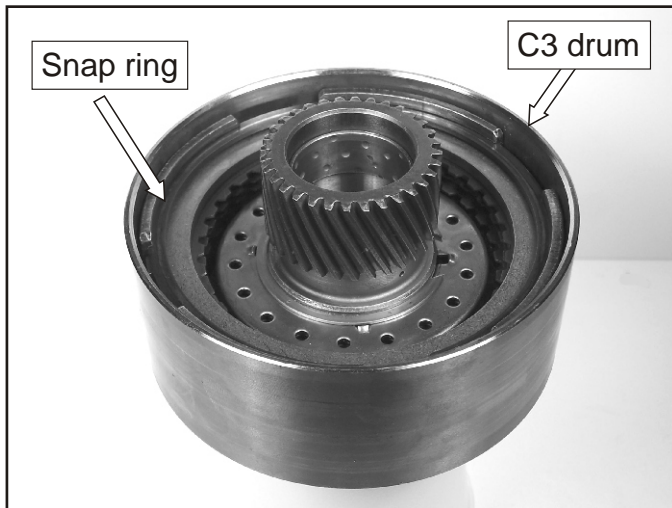

Figure 138
85. Remove the snap ring and the C3 clutch assembly from the C3 drum as shown below in Figure 138.